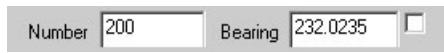

Figure 9-10. Input Bar
- Enter a bearing to the second point into the Input Bar (Figure 9-10).